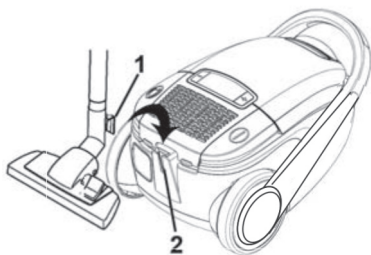

Fig.16
- To **store it** or when interrupting your work, you can hook the park/storage hook (Fig. 16/1) into the parking (Fig. 16/2) bracket.